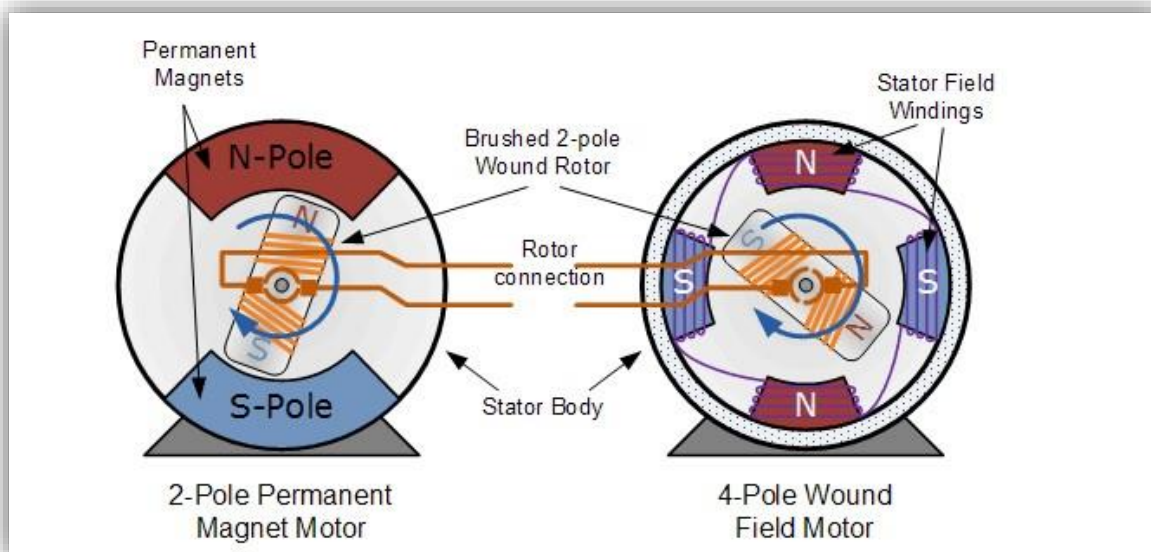

Figure 2.7.1: Conventional (Brushed) DC Motor
- Brushed Motor (as seen in **Figure 2.7.1**)